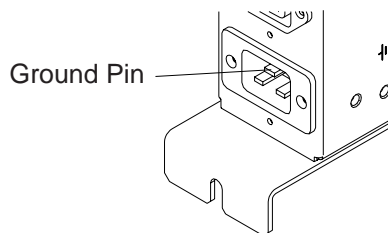

Figure 0-5. Ground Pin of the ac Outlet Distribution Box
- Check that electrical continuity is assured between each equipment installed in the controller expansion (service processor, network node processor, modem, optical disk drive) and the ground pin of the ac outlet distribution box (see Figure 0-5).